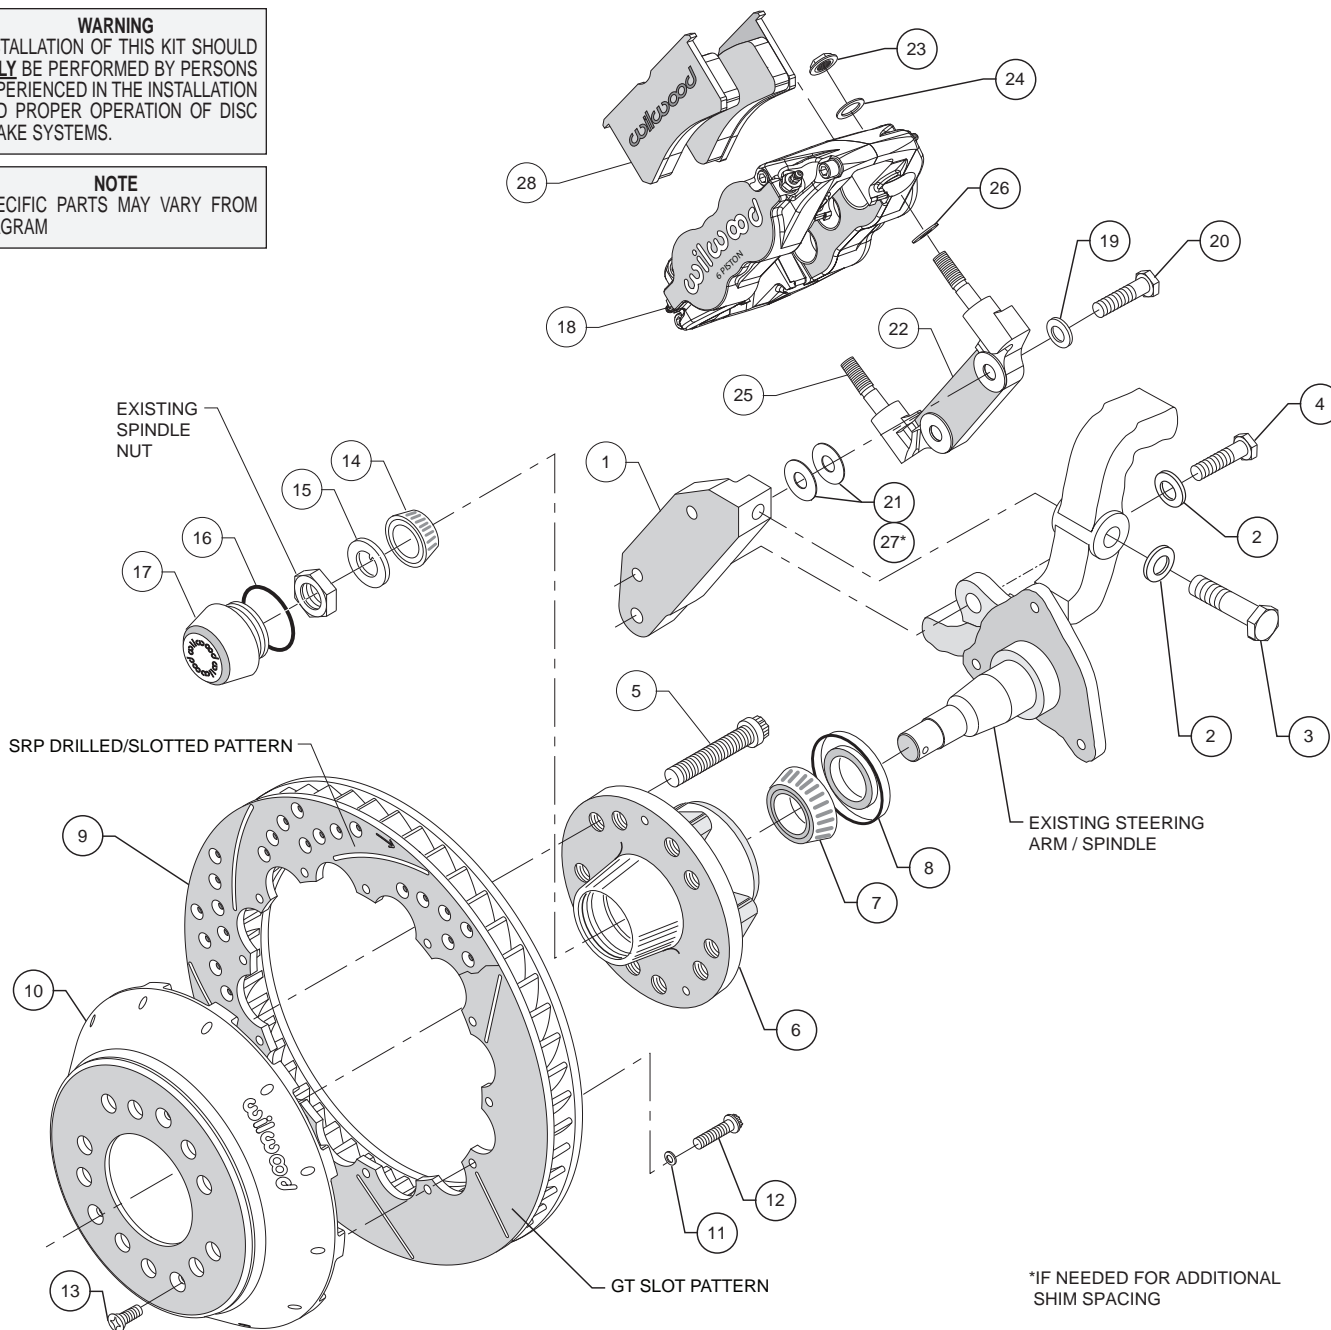

Figure 1. Typical Installation Configuration
- Mount the radial mount caliper bracket (22) to the first "flat" caliper mounting bracket (1) from the far side using washers (19) and bolts (20), as shown in Figure 1. Initially place two .030 thick shims (21) between the two brackets (1 and 22). Temporarily tighten the bolts.
- NOTE:** This kit contains distinct right and left hand calipers that must be mounted in a specific direction, as described below. Lubricate the caliper mounting studs (25) with lightweight oil. Initially place one .035" thick shim (26) on each stud as shown in Figure 1. Mount the caliper (18) onto the bracket (1) using lock nuts (23) and washers (24), Figure 1. Ensure that the caliper is mounted so that the largest pistons are at the rotor exit end of the caliper, in relation to the direction of rotor rotation. Temporarily tighten the lock nuts and view the rotor through the top opening of the caliper. The rotor should be centered in the caliper. If not, adjust by adding or subtracting .030" shims (21), or add .015" thick shims (27), as necessary between the radial mount bracket (22) and the flat bracket (1). Always use the same amount of shims on each of the two mounting bolts. Once the caliper alignment is correct, remove the bracket mounting bolts (20) one at a time, apply red *Loctite*[®] 271 to the threads, and torque to 42 ft-lb.